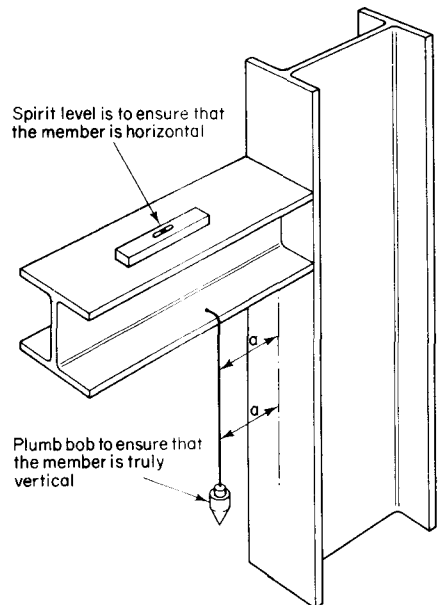
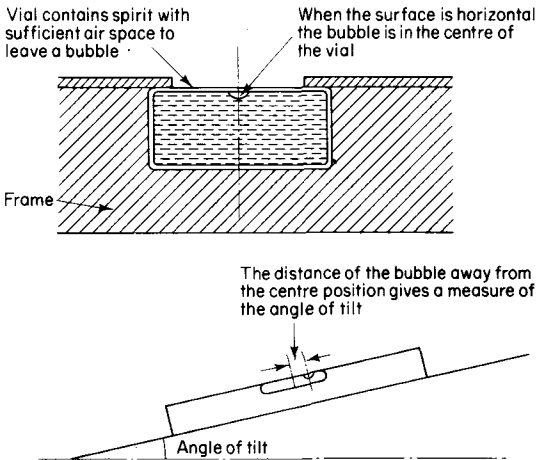

Fig. 4.32 Use of spirit level and plumb bob to make sure that structural members are horizontal and vertical
Fig. 4.33 The spirit level
**Plumb-lines and spirit levels.** The plumb-line provides a vertical datum line when used as shown in Fig. 4.32. The spirit level (or 'bubble' level) is used to make sure that surfaces are horizontal. Strictly speaking a spirit level checks the angle of tilt of a surface as shown in Fig. 4.33. When the surface is horizontal the bubble positions itself at the centre of the vial. When the surface is tilted the bubble moves away from the centre of the vial. The distance of the bubble away from the centre position is a measure of the angle of tilt of the surface.